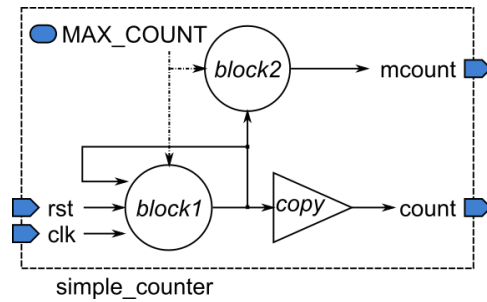

Figure 2: Simple counter internal blocks (initial version).
- There must be a block to maintain the counter value; this the *block1* in Figure 2. This must be modelled after a flip-flop / register template as the counter counts on the rising edge of the clock input. The calculated value must be maintained into an internal data object (without direction restrictions, so can be read and written) and copied onto the `count` output port with a parallel assignment; this is because the `count` output port has direction restrictions and can only be written into and to count we need to read and write (the VHDL code for counting is something along the lines of `count_value <= count_value + 1`).
- There must be a combinational block (*block2* in Figure 2) that compares the current counter value against `MAX_COUNT` and determines the value of the `mcount` port to be '1' if those values are equal and '0' otherwise.
In this particular case there are two subsystems or blocks that can be described separately, each devoted to determine the value of one of the circuit outputs as depicted in Figure 2.
From the above analysis it should be evident the first system block diagram version has to be refined to avoid reading from `count`. The solution is quite simple in fact: declare and use an internal signal for all the calculations and use a third block to copy the calculated value onto `count`. This block is also depicted in Figure 2 as `copy`; the name